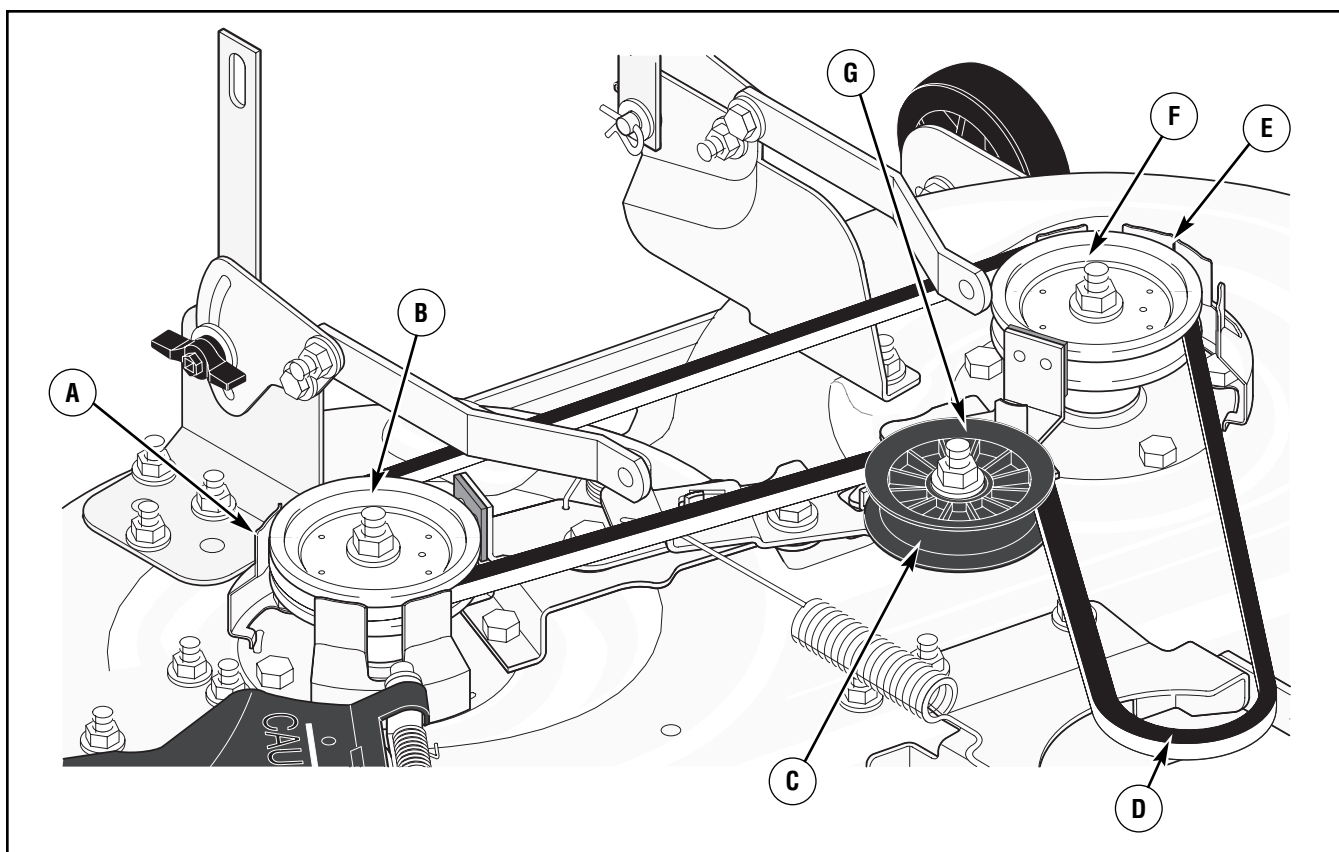

Figure 42: Mower drive belt assembly (42" models)
2. Pull the **belt retainer** away from the **idler pulley** and remove the **mower drive belt** (Figure 42).